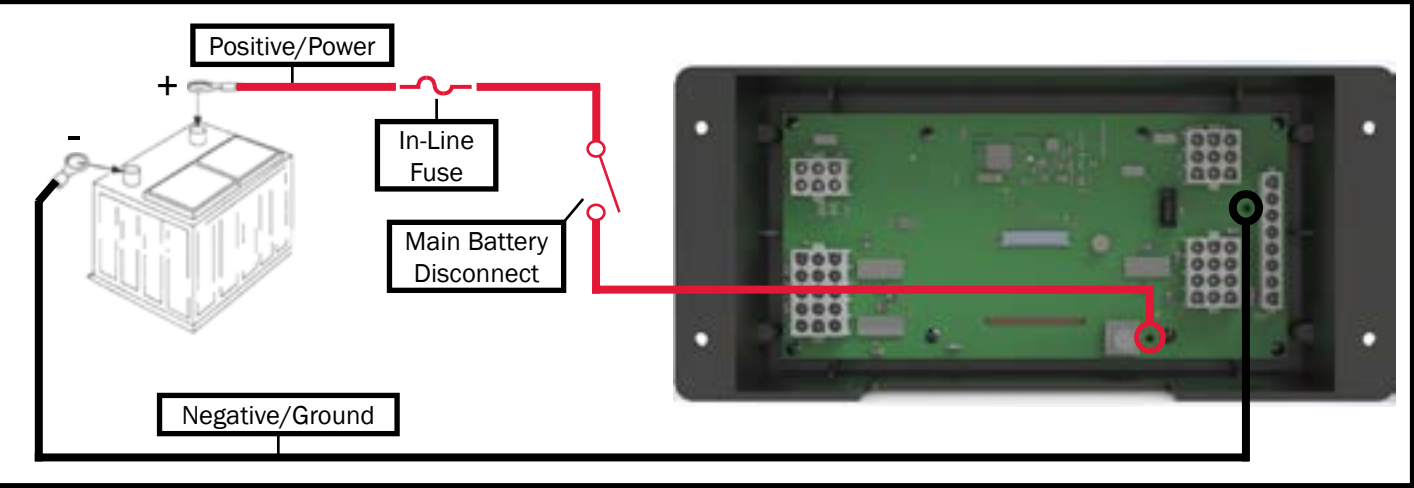

Figure 76
- Reference the schematics starting on page 46 and Figure 76.